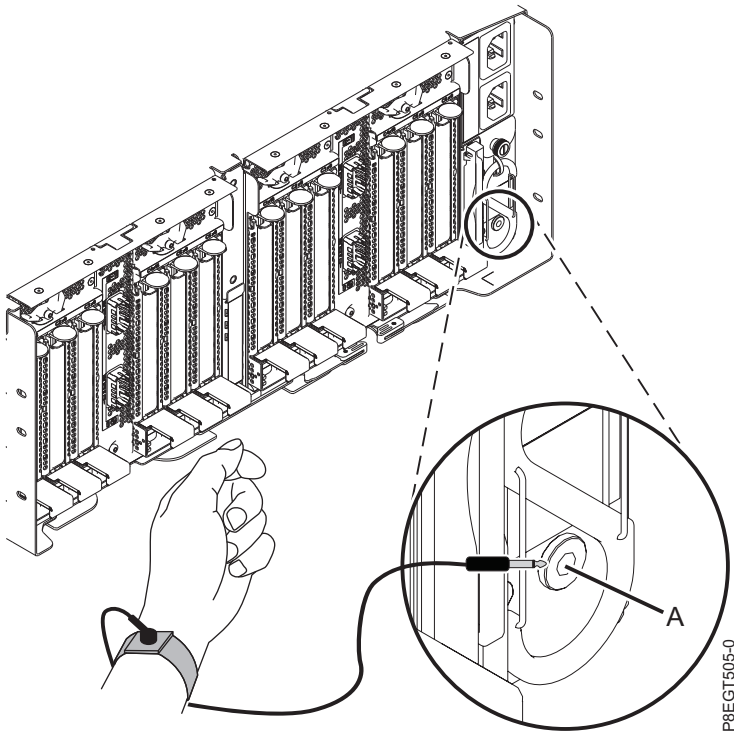

Figure 7. Attaching the wrist strap to the rear ESD jack
8. Attach the wrist strap. Plug the wrist strap into the electrostatic discharge (ESD) jack at the rear of the system. See Figure 7 on page 6.